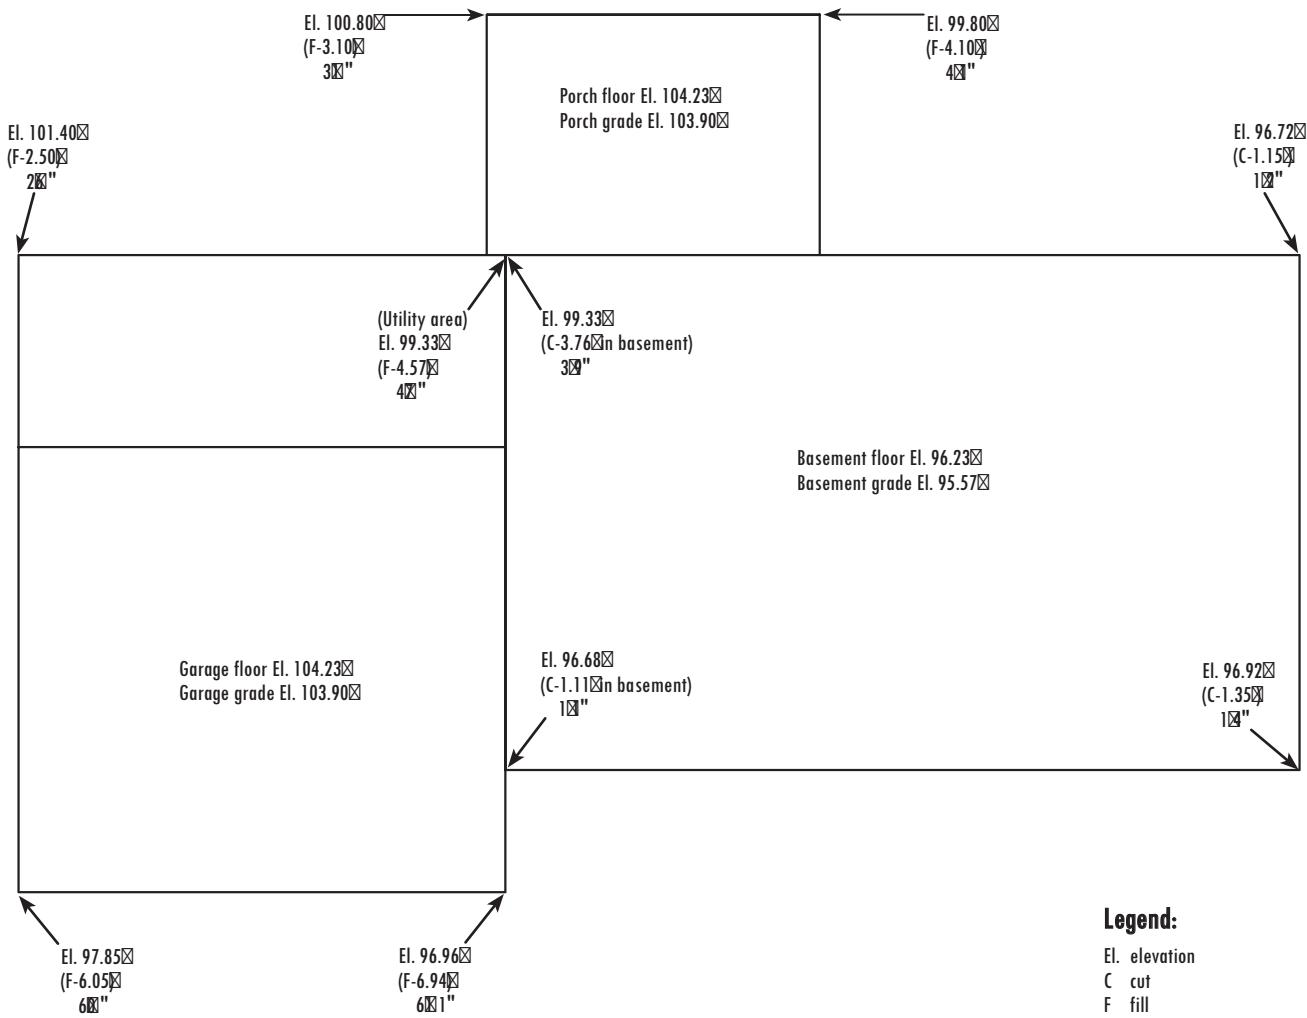
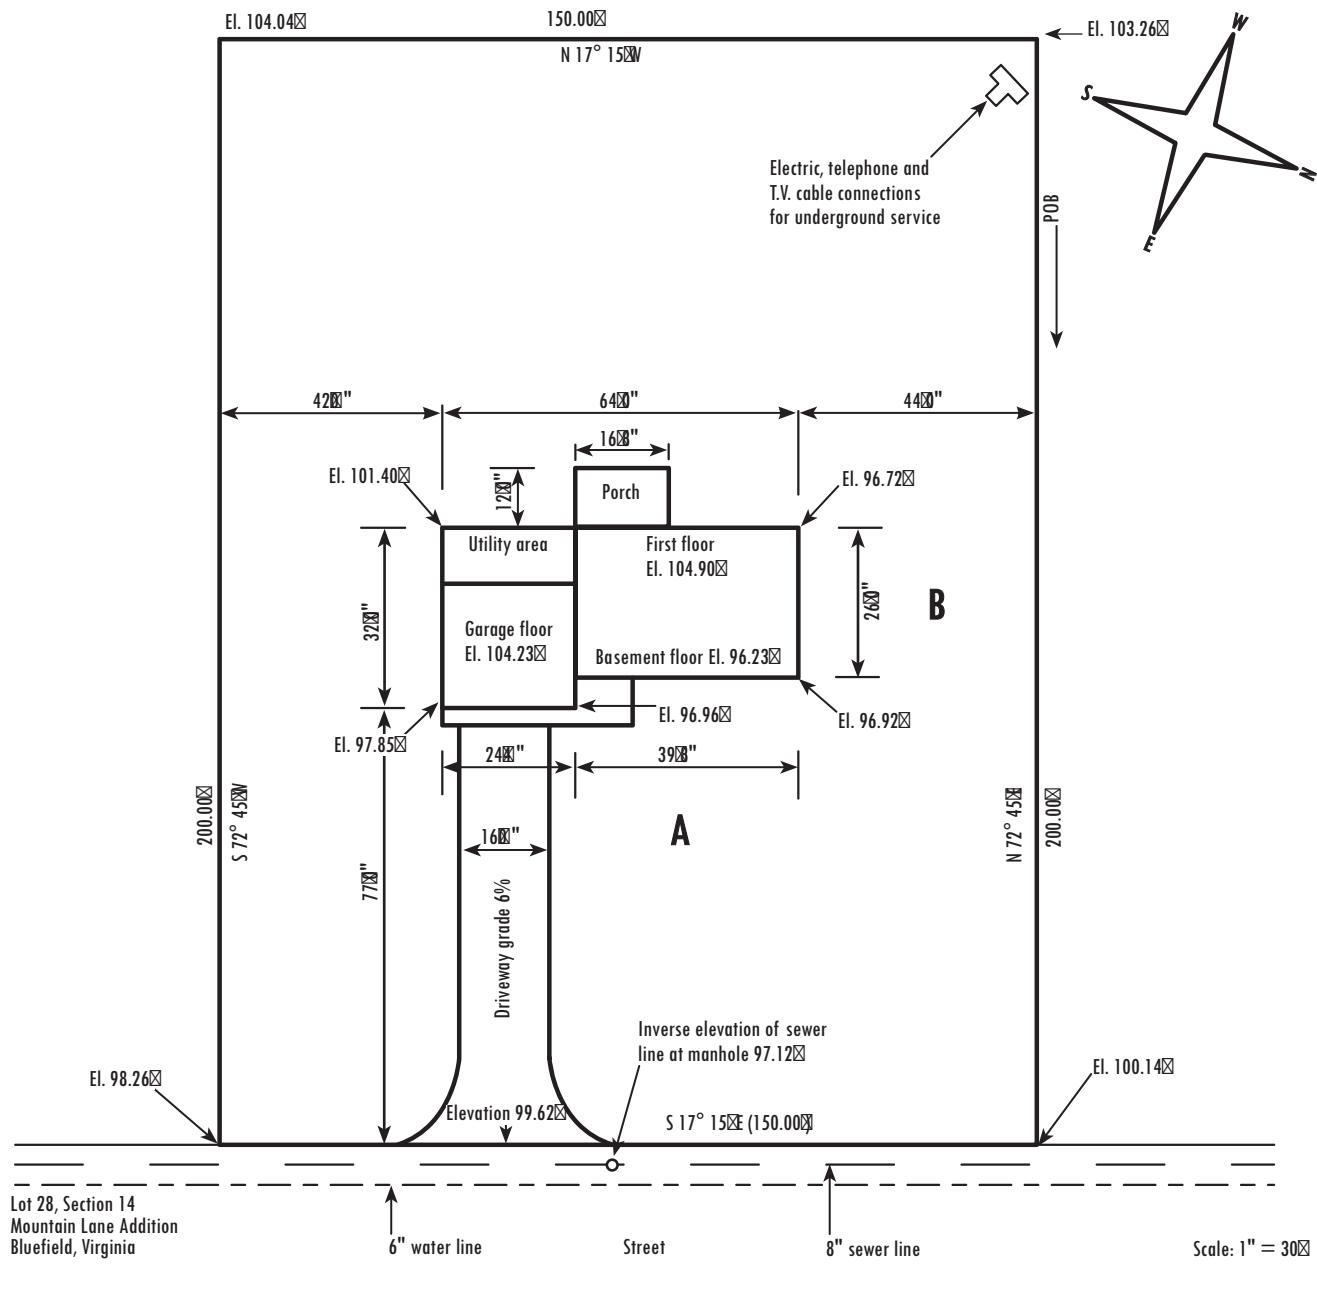

Figure 3-1
Figure 3-2
Figure 3-1 is the foundation plan of a house staked out with dimensions from a plot plan. The existing grade elevations at each corner of the house have been taken, and the floor and grade elevations have been determined and recorded.
From this information and the building dimensions given in Figure 3-2, you can calculate the amount of earth to be excavated.
1. Basement foundation wall dimensions from the blueprints, and shown on the plot plan in Figure 3-2, are 39'8" x 26'0" (indicated as A and B in the figure). Allowing 2 additional feet for working room around the foundation, basement excavation dimensions are:
2. In Figure 3-1, basement grade elevation is calculated as 95.57 feet. Grade elevation at the right back corner of the basement foundation is 96.72 feet. A cut of 1.15 feet is required here. A minus sign in the calculation result means that a *cut* is required.
fill dirt, which will be discussed later in this chapter. To determine the cubic yards of earth to excavate for the foundation shown in Figure 3-1, do the following:
From grade and floor elevations, the dimensions shown in Figure 3-2, and the foundation plan in Figure 3-1 showing the cuts and fills, you can calculate the fill material you'll need.
Garage and utility *floor* elevation has been calculated as 104.23 feet, as shown in Figure 3-2. The specifications call for a 4-inch concrete slab over the fill dirt. So the garage and utility area *grade* elevation will be 103.90 feet.
1. The elevation at the right front corner of the garage is 96.96 feet (Figure 3-1). The fill required will be 6.94 feet:
The plans call for a walk from the front of the garage to the front porch. The elevation of this walk and the porch will be the same as the garage and utility floor elevation (104.23 feet), shown in Figure 3-2. The finished grade from the left front corner of the garage to the right front corner of the house will be the same, and will taper to the left and right front corners of the lot at the street. We can determine the amount of fill dirt required in the front yard, as follows:
2. In Figure 3-1, you'll see that elevation at the right front corner of the *house* is 96.92 feet. The fill required here will be 7.31 feet:
3. In Figure 3-2, the elevation at the left front corner of the *lot* is 98.26 feet. No fill is required at this point.